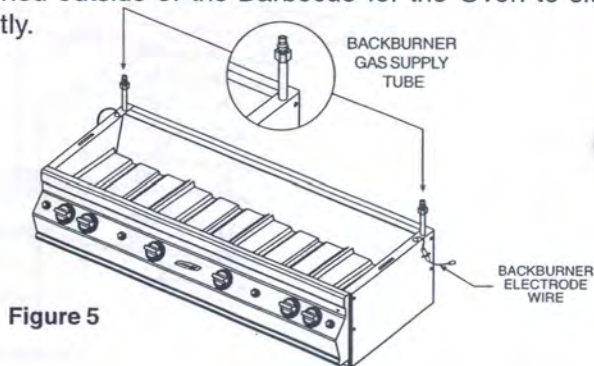

Figure 5
a. Make sure the Backburner gas supply tubes are protruding above the side panels of the barbecue frame (Figure 5). The Backburner electrode wires should be positioned outside of the Barbecue for the Oven to sit correctly.